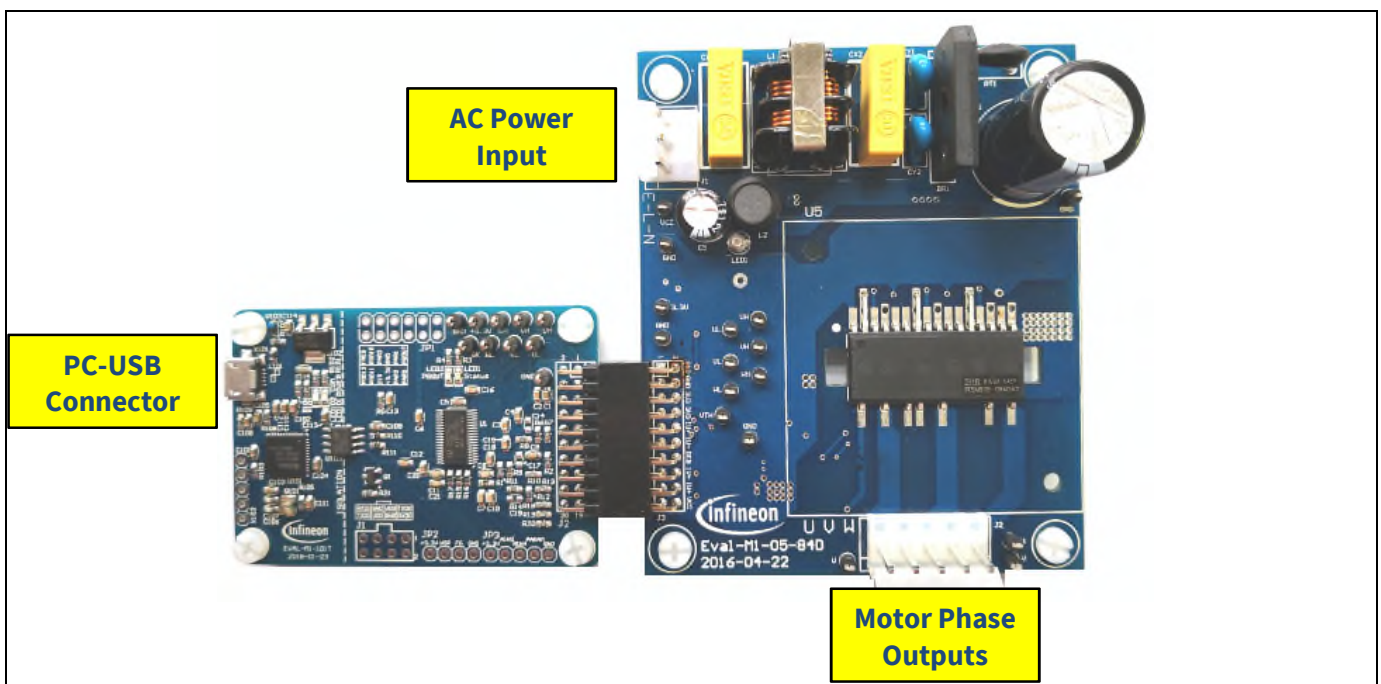

Figure 5 System connection example using EVAL-M1-101T and EVAL-M1-05-84D
3. Connect EVAL-M1-101T's M1 20-pin interface connector (J2) to power board (For example EVAL-M1-05-84D, see Figure 5).